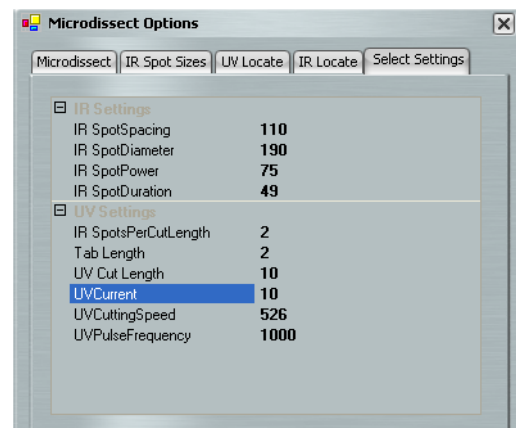

Figure 55 Select Settings tab
2. Click the **Select Settings** tab (see Figure 55).